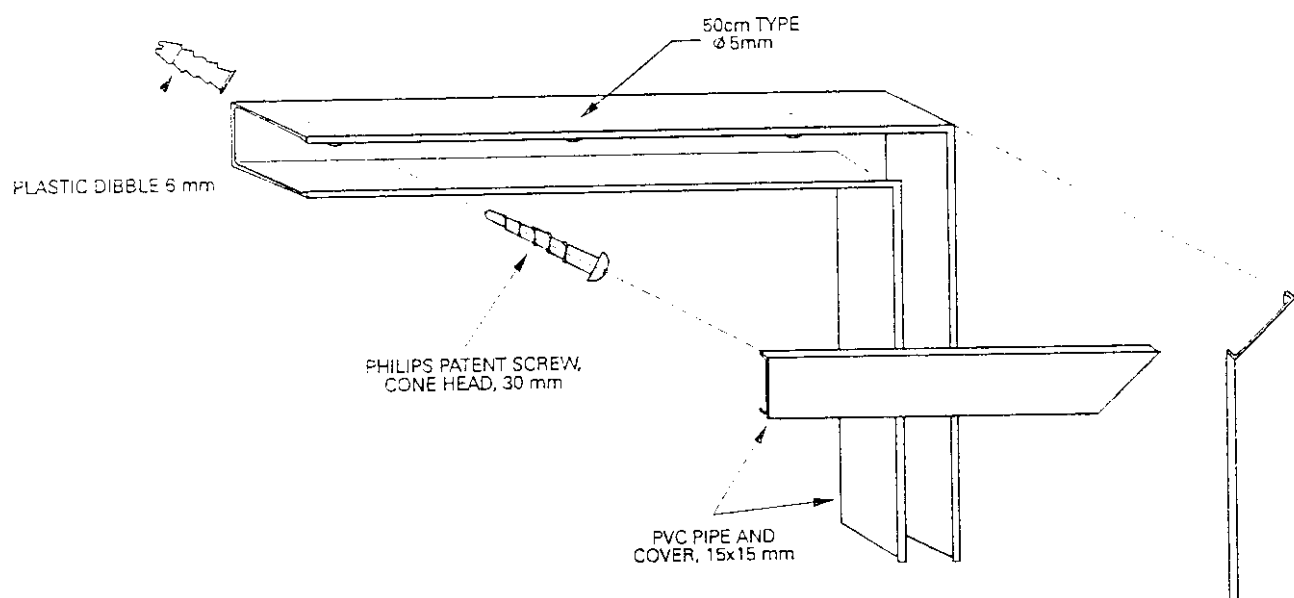

Figure 5-7. PVC Cable Channeling
- PVC Cable Tray (see Figure 5-7).